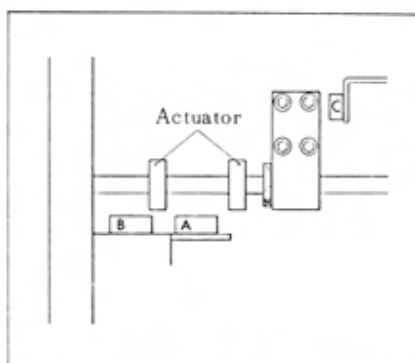
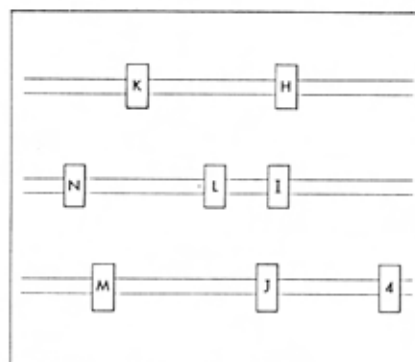
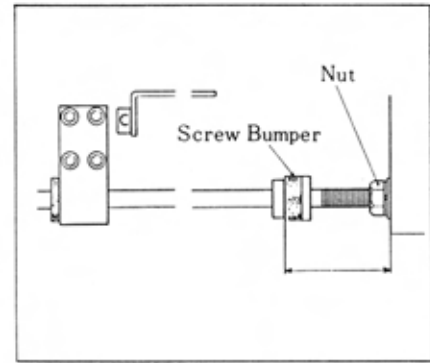

Figure 5
Figure 6
Figure 7
4. Length of End Dense (Figures 5 and 6)
- The length of starting the end dense may be altered by moving the actuator for switch (B). To decrease the length, move switch (B) to the left.
- The length of the second end dense may be altered by moving switch (I). To decrease the length, move switch (I) to the left.
5. Cushion (Figure 6)
6. Thread Pick Up and Trim (Figure 6)
7. Cutting Position of Center Knife (Figures 5 and 6)
8. Position of Tab Knife (Figures 7, 8, 9 and 10)
- (A) Screw bumper out to correct.
- (B) Screw bumper in to correct.
- (C) (a) Adjust finish end of pocket by moving switch (M) (see Figure 6) to the right.